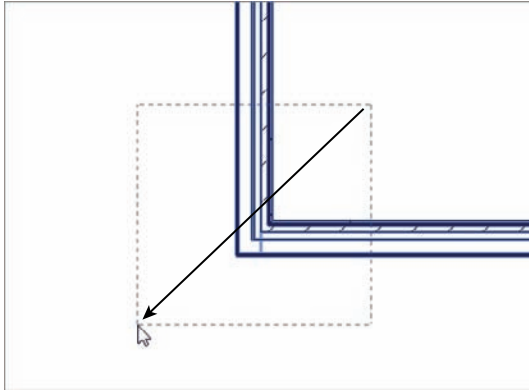

FIGURE 1.22 Using a crossing window to select two walls
3. You see a window start to form. Run that selection window past the two walls. After you highlight the walls, as illustrated in Figure 1.22, let go of the mouse button, and you've selected the walls.
A crossing window is an object-selection method in which you select objects by placing a window that crosses through the objects. A crossing window will always start from the right and end to the left. When you place a crossing window, it's represented by a dashed-line composition (as you saw in Figure 1.22).